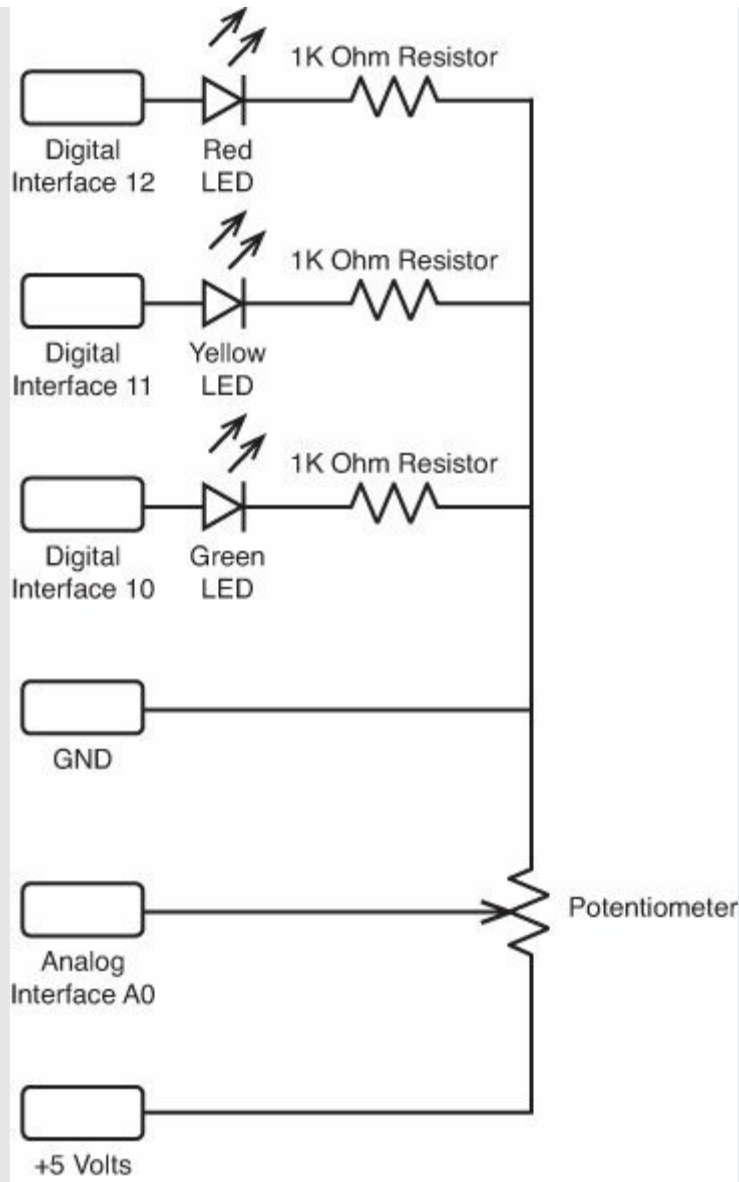

FIGURE 15.4 The complete traffic signal diagram.
2. Add the traffic signal circuit that you used from sketch1401. The final circuit diagram is shown in Figure 15.4. You can use three different-colored LEDs, or you can use three of the same color LED.